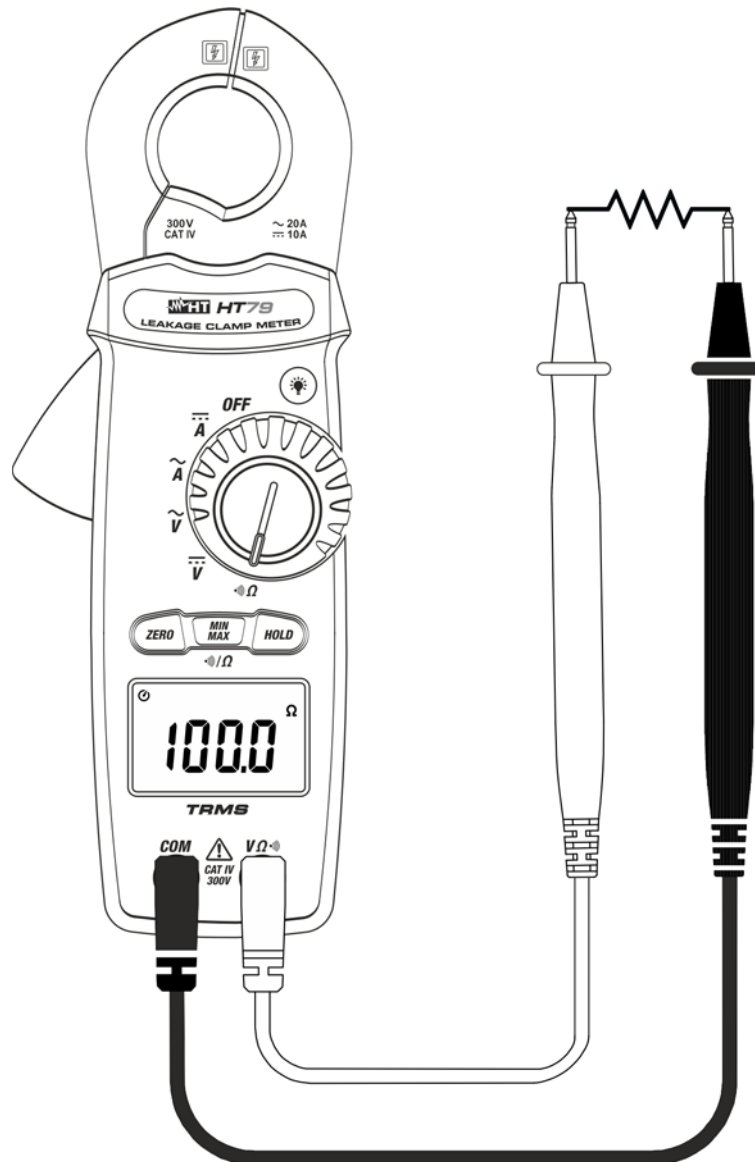

Fig. 6: Use of the instrument for Resistance measurement
3. Position the test leads in the desired spots of the circuit to be measured (see Fig. 6). The display shows the value of resistance.